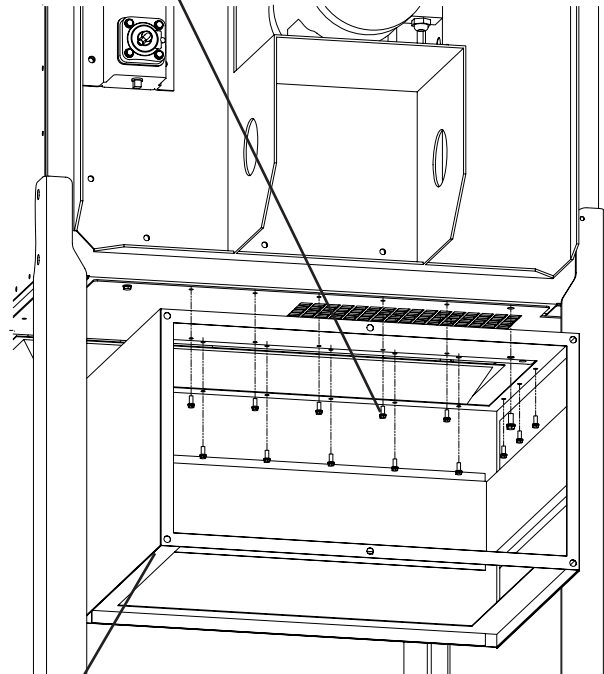

FIGURE 16B
5. Attach After Filter with existing bolts, screws, and the six (6) self-tapping screws provided (see Figure 16B).